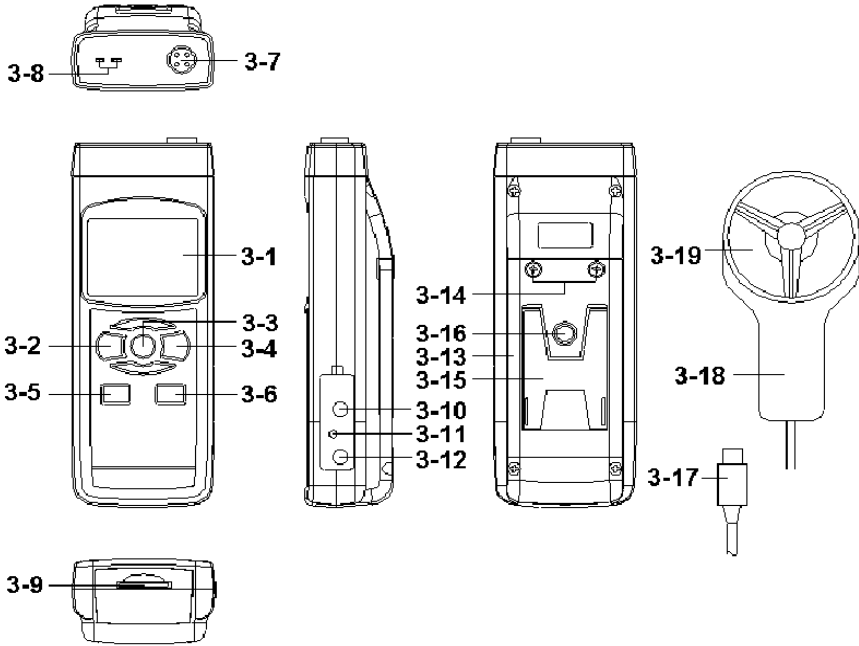

Fig. 1
(3-2, Fig. 1) momentarily.
** Pressing the " Power Button " (3-2, Fig. 1)
Pressing the " Function Button " (3-3, Fig. 1)
just release the " Function Button " (3-3, Fig. 1), the
- b. Plug the " Probe Plug " (3-17, Fig. 1) into the " Probe Input Socket " (3-7, Fig. 1).
Power on the meter by pressing the " Power Button " (3-2, Fig. 1) once,
- c. Hold the " Probe Handle " (3-18, Fig. 1) by hand and let the " Probe Head " (3-19, Fig. 1) face against the measuring air flow source, then the Display (3-1, Fig. 1) will show air velocity directly. At the same time, the lower Display will show the air temperature value.
- b. Not install the " Probe Plug " (3-17, Fig. 1) into the " Probe Input Socket " (3-7, Fig. 1)
- c. Plug the Thermocouple Temp. Probe (Type K Temp. probe or Type J Temp. probe, optional) into " Type K/J Probe Input Socket " (3-8, Fig. 1)
During the measurement, press the " Hold Button " (3-3, Fig. 1) once will hold the measured value & the LCD will display a " HOLD " symbol.
- 1) The data record function records the maximum and minimum readings. Press the " REC Button " (3-4, Fig. 1) once to start the Data Record function and there will be a " REC. " symbol on the display.
- a) Press the " REC Button " (3-4, Fig. 1) once, the " REC. MAX. " symbol along with the maximum value will appear on the display.
If intend to delete the maximum value, just press the " Hold Button " (3-3, Fig. 1) once, then the display will show the " REC. " symbol only & execute the memory function continuously.
- b) Press the " REC Button " (3-4, Fig. 1) again, the " REC. MIN. " symbol along with the minimum value will appear on the display.
If intend to delete the minimum value, just press the " Hold Button " (3-3, Fig. 1) once, then the display will show the " REC. " symbol only & execute the memory function continuously.
After power ON, the " LCD Backlight " will light automatically. During the measurement, press the " Backlight Button " (3-2, Fig. 1) once will turn OFF the " LCD Backlight " .
Prepare a " SD memory card " (1 G to 16 G, optional), insert the SD card into the " SD card socket " (3-9, Fig. 1). The front panel of the SD card should face against the the down case.
Press the " REC Button (3-4, Fig. 1) once , the LCD will show the text " REC ", then press the " Logger Button " (3-6, Fig. 1), the " REC " will flashing, at the same time the measuring data along the time information will be saved into the memory circuit.
During execute the Datalogger function , if press the " Logger Button " (3-6, Fig. 1) once will pause the Datalogger function (stop to save the measuring data into the memory circuit temporally). In the same time the text of " REC " will stop flashing.
If press the " Logger Button " (3-6, Fig. 1) once again will execute the Datalogger again, the text of " REC " will flashing .
During pause the Datalogger, press the " REC Button " (3-4, Fig. 1) continuously at least two seconds, the " REC " indication will be disappeared and finish the Datalogger.
Press the " REC Button (3-4, Fig. 1) once , the LCD will show the text " REC ", then press the " Logger Button " (3-6, Fig. 1) once, the " REC " will flashing once and Beeper will sound once, at the same time the measuring data along the time information will be saved into the memory circuit. The lower Display will show the Position (Location) no. and saved into the SD card too.